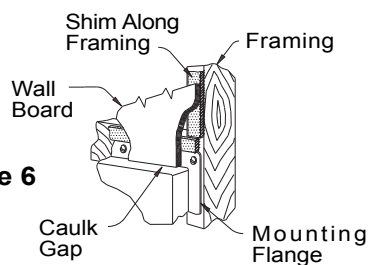

Figure 6
8. Finish wall board as detailed in *Figure 6*.